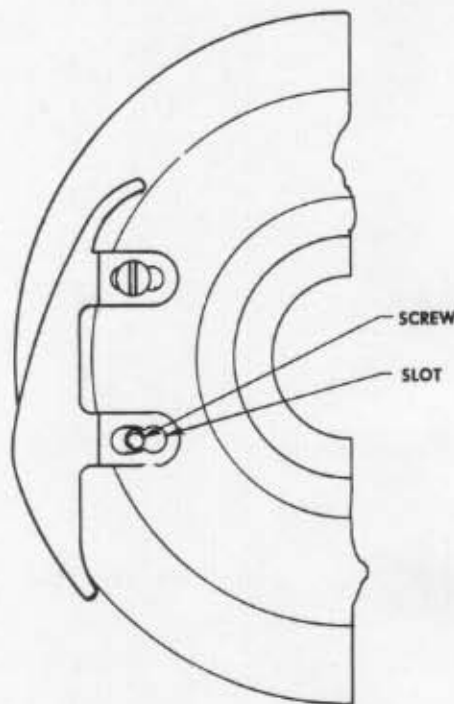

Figure 6-3
1. Cam should be installed with screws in elongated slots as shown in figure 6-3.
2. Adjust rod of carburetor or butterfly linkage (68) so that throttle of carburetor begins to open when speed control knob is approximately $\frac{1}{2}$ inch left of center.